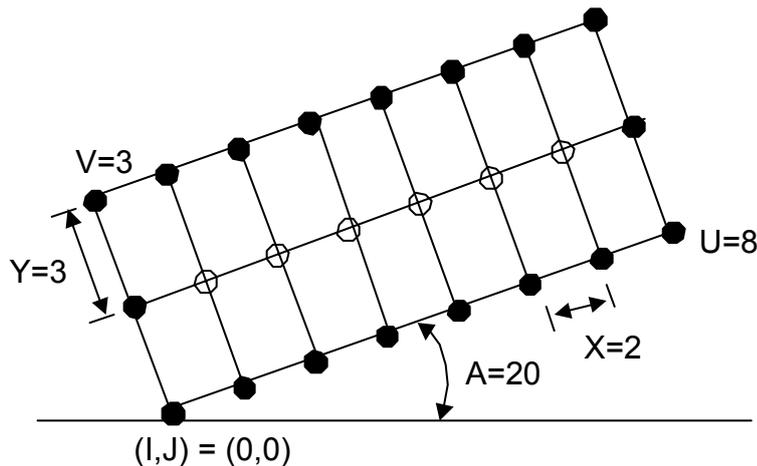
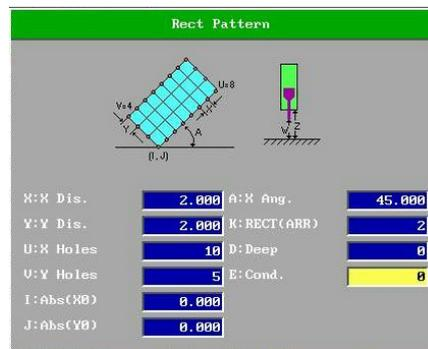

Figure 4-4-22 Rect Pattern Specification Illustration
Figure 4-4-23 Rect Pattern Screen
A user can edit a rect pattern composed of circle holes in simple dialog edit mode. The machined figure is as shown in Figure 4-4-22. Each solid and empty circle point stands for a machined fine hole. The screen of the dialog edit window is as shown in Figure 4-4-23. The following is the description aiming at the meaning that each input field in the dialog edit window stands for.
- X: X Dis.** Set the distance between each hole in rect patt. X. In Figure 4-4-22, the distance of X is 2mm so X is 2.
- Y: Y Dis.** Set the distance between each hole in rect patt. X. In Figure 4-4-22, the distance of Y is 3mm so Y is 3.
- U: X Holes** Set the holes in rect patt. X. In Figure 4-4-22, the holes of X have 8 so U is 8.
I: Abs(X0) Set X coord of rect patt StPt. In Figure 4-4-22, the StPt of X coord is 0 so I is 0.
J: Abs(Y0) Set Y coord of rect patt StPt. In Figure 4-4-22, the StPt of Y coord is 0 so J is 0.
A: X Ang. Set X Ang between X in rect patt and X in work coord. In Figure 4-4-22, the angle between X in rect patt and X in work coord is 20° so A is 20.
K: rect (ARR) Set the type of rect (ARR). It can be set 0, 1 or 2. 0 stands for the empty array of rect pattern, and the completed figure only has solid circle points in Figure 4-4-22. 1 stands for the inner array of rect pattern and the completed figure only has empty circle points in Figure 4-4-22. 2 stands for setting a rect pattern as a solid rect pattern and the completed figure includes the solid circle points and empty circle points in Figure 4-4-22.